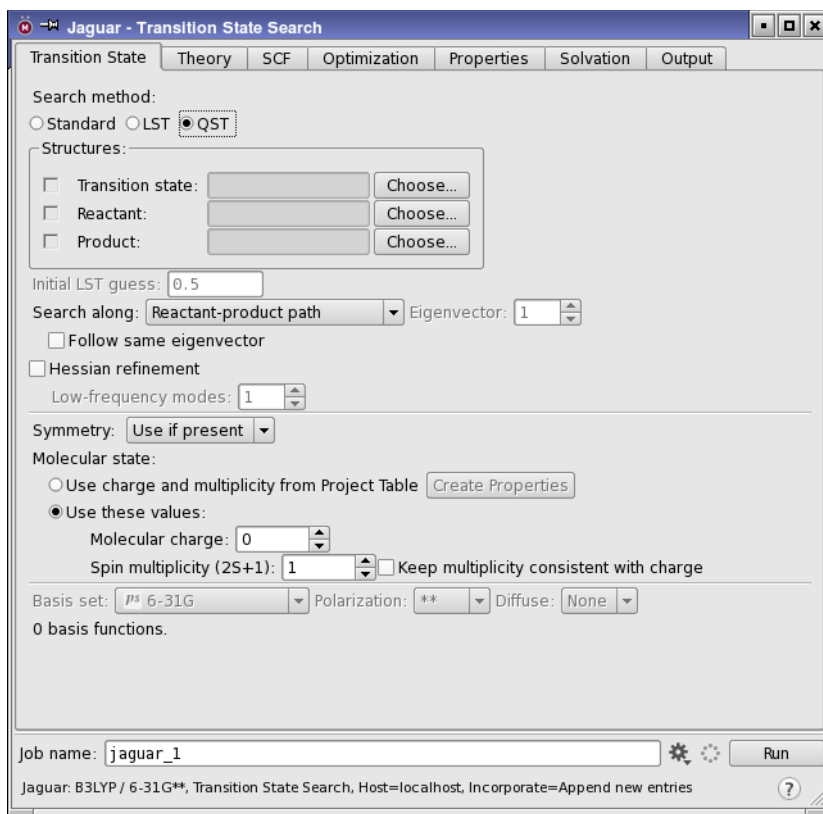

Figure 5.1. The Transition State tab.
6. In the **Transition state** tab (see Figure 5.1), under **Search method**, select **QST**.